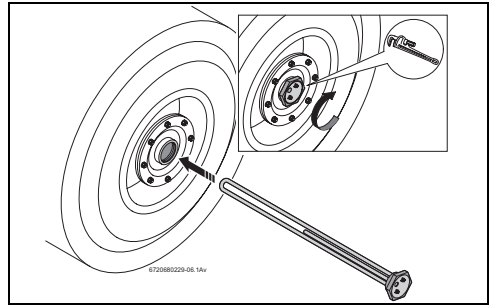

Fig. 5
- ▶ Screw the heating element in by turning in a clockwise direction (→ Fig. 5).